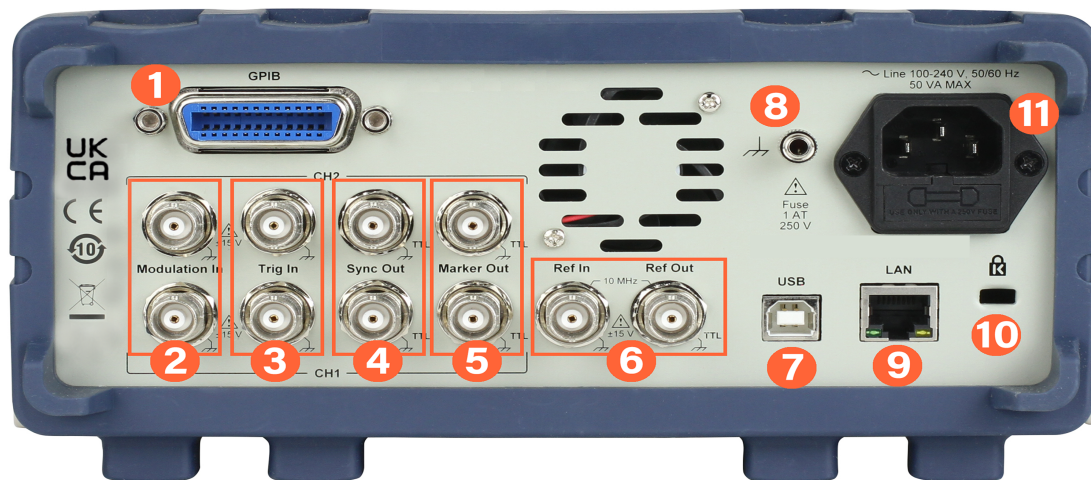

Figure 1.4 Rear Panel
- Step 1.** Locate the fuse box in the rear panel beneath the IEC 320 connector. (See figure 1.4)